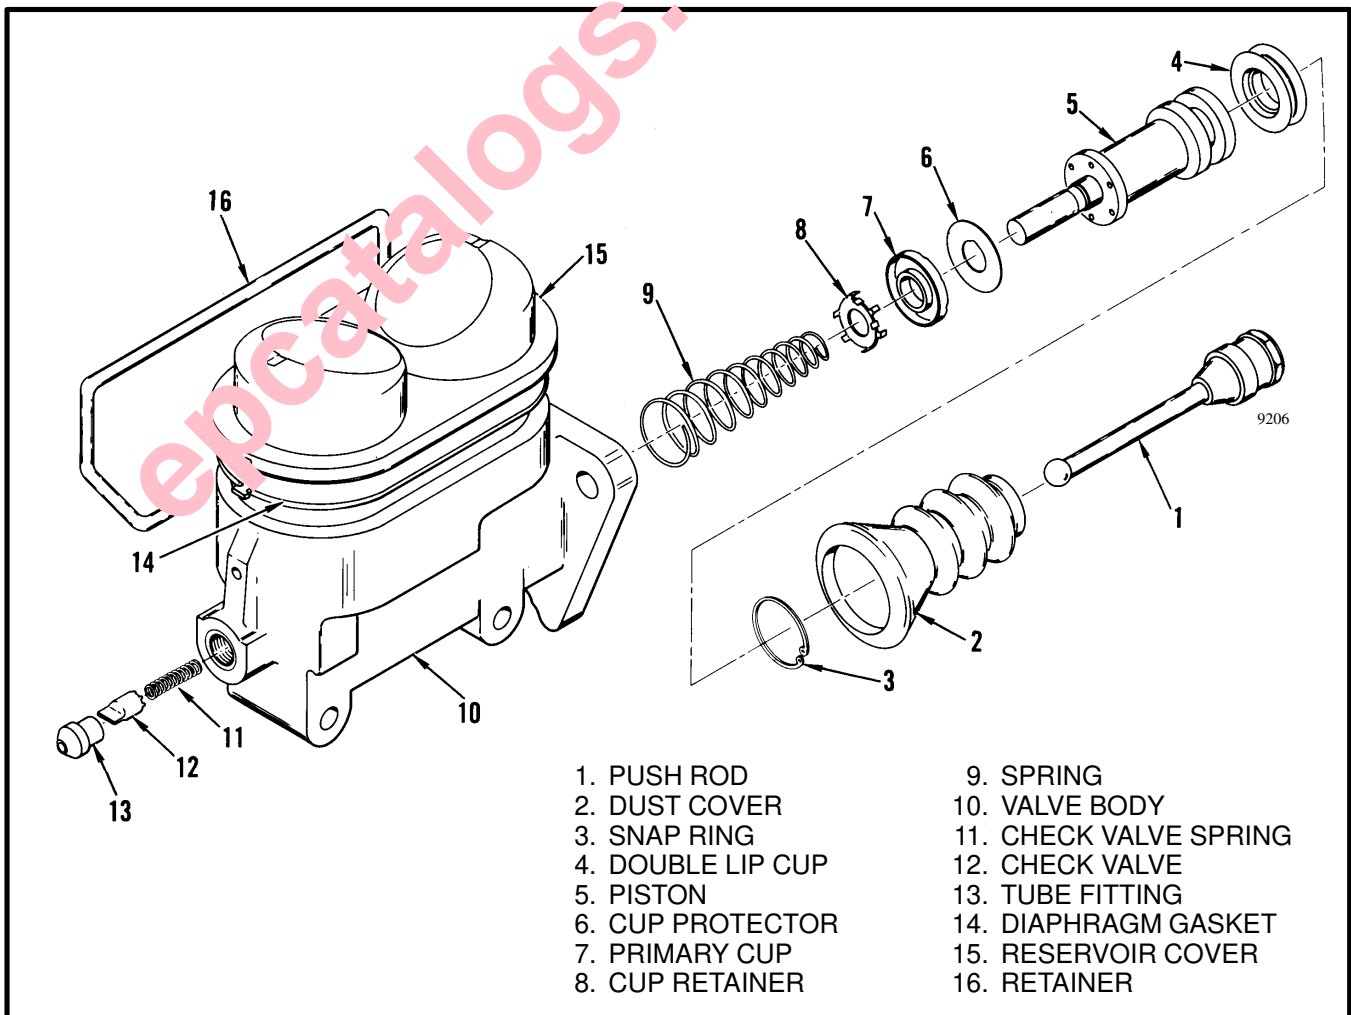

FIGURE 1. MASTER CYLINDER
1. Use a repair kit. Install the parts in the order shown in FIGURE 1. Hold the piston in the cylinder with a screwdriver. Make sure the snap ring is in the correct position.